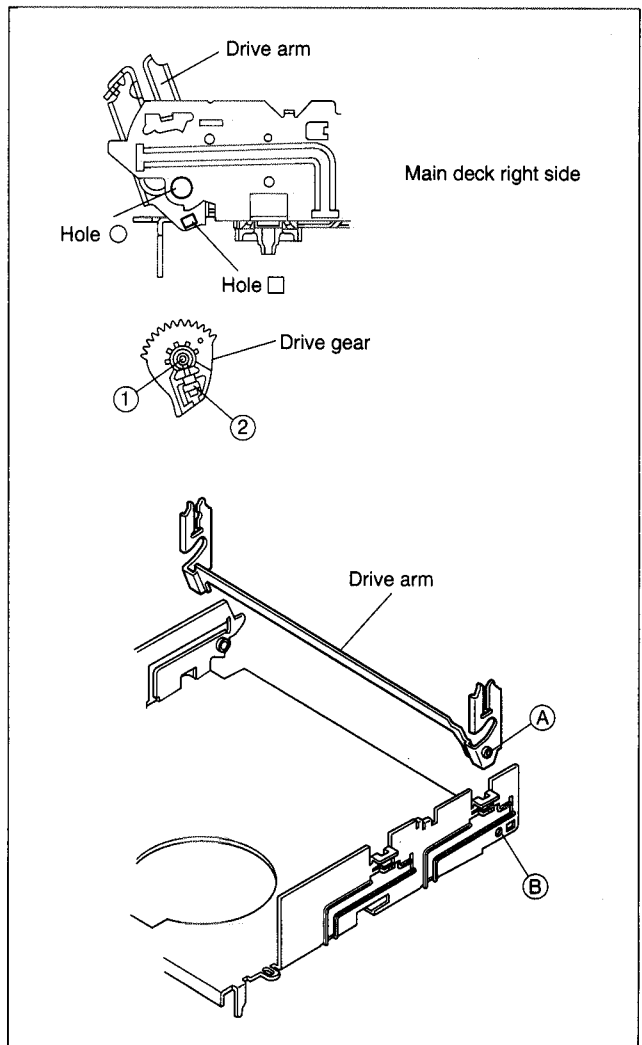
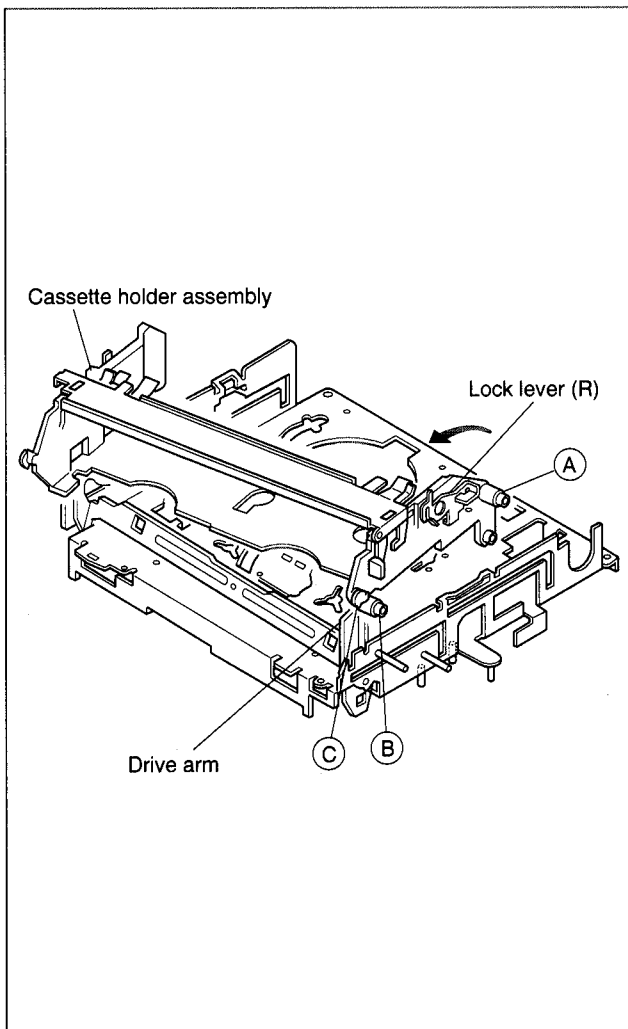

Fig. 2-2-7
Fig. 2-2-8
- (1) Insert the section (A) of the drive arm into the section (B) of the main deck.
- (2) Insert the section (1) of the drive gear into the round hole, and the section (2) into the square hole on the drive arm. (See Fig.2-2-7.)
- (3) Hold the drive arm upright and fit the leg (C) on the right side of the cassette holder assembly into the groove.
- (4) While swinging the lock lever (R) of the cassette holder assembly toward the front, put the legs (A) and (B) into the rail. (See Fig.2-2-8.)